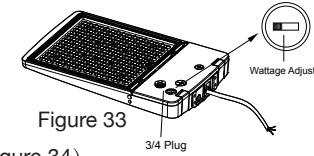

Figure 33
2. Wattage adjustment (Figure 33)